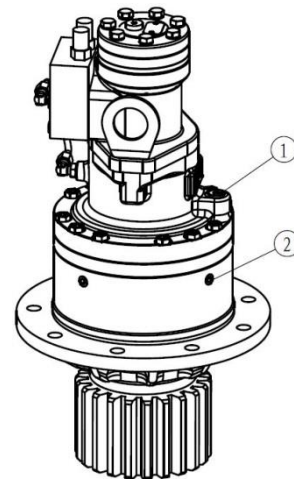

Figure 1-10 Swing Gearbox
- Remove the plug on the side and inspect the oil level, as shown in Figure 1-10.